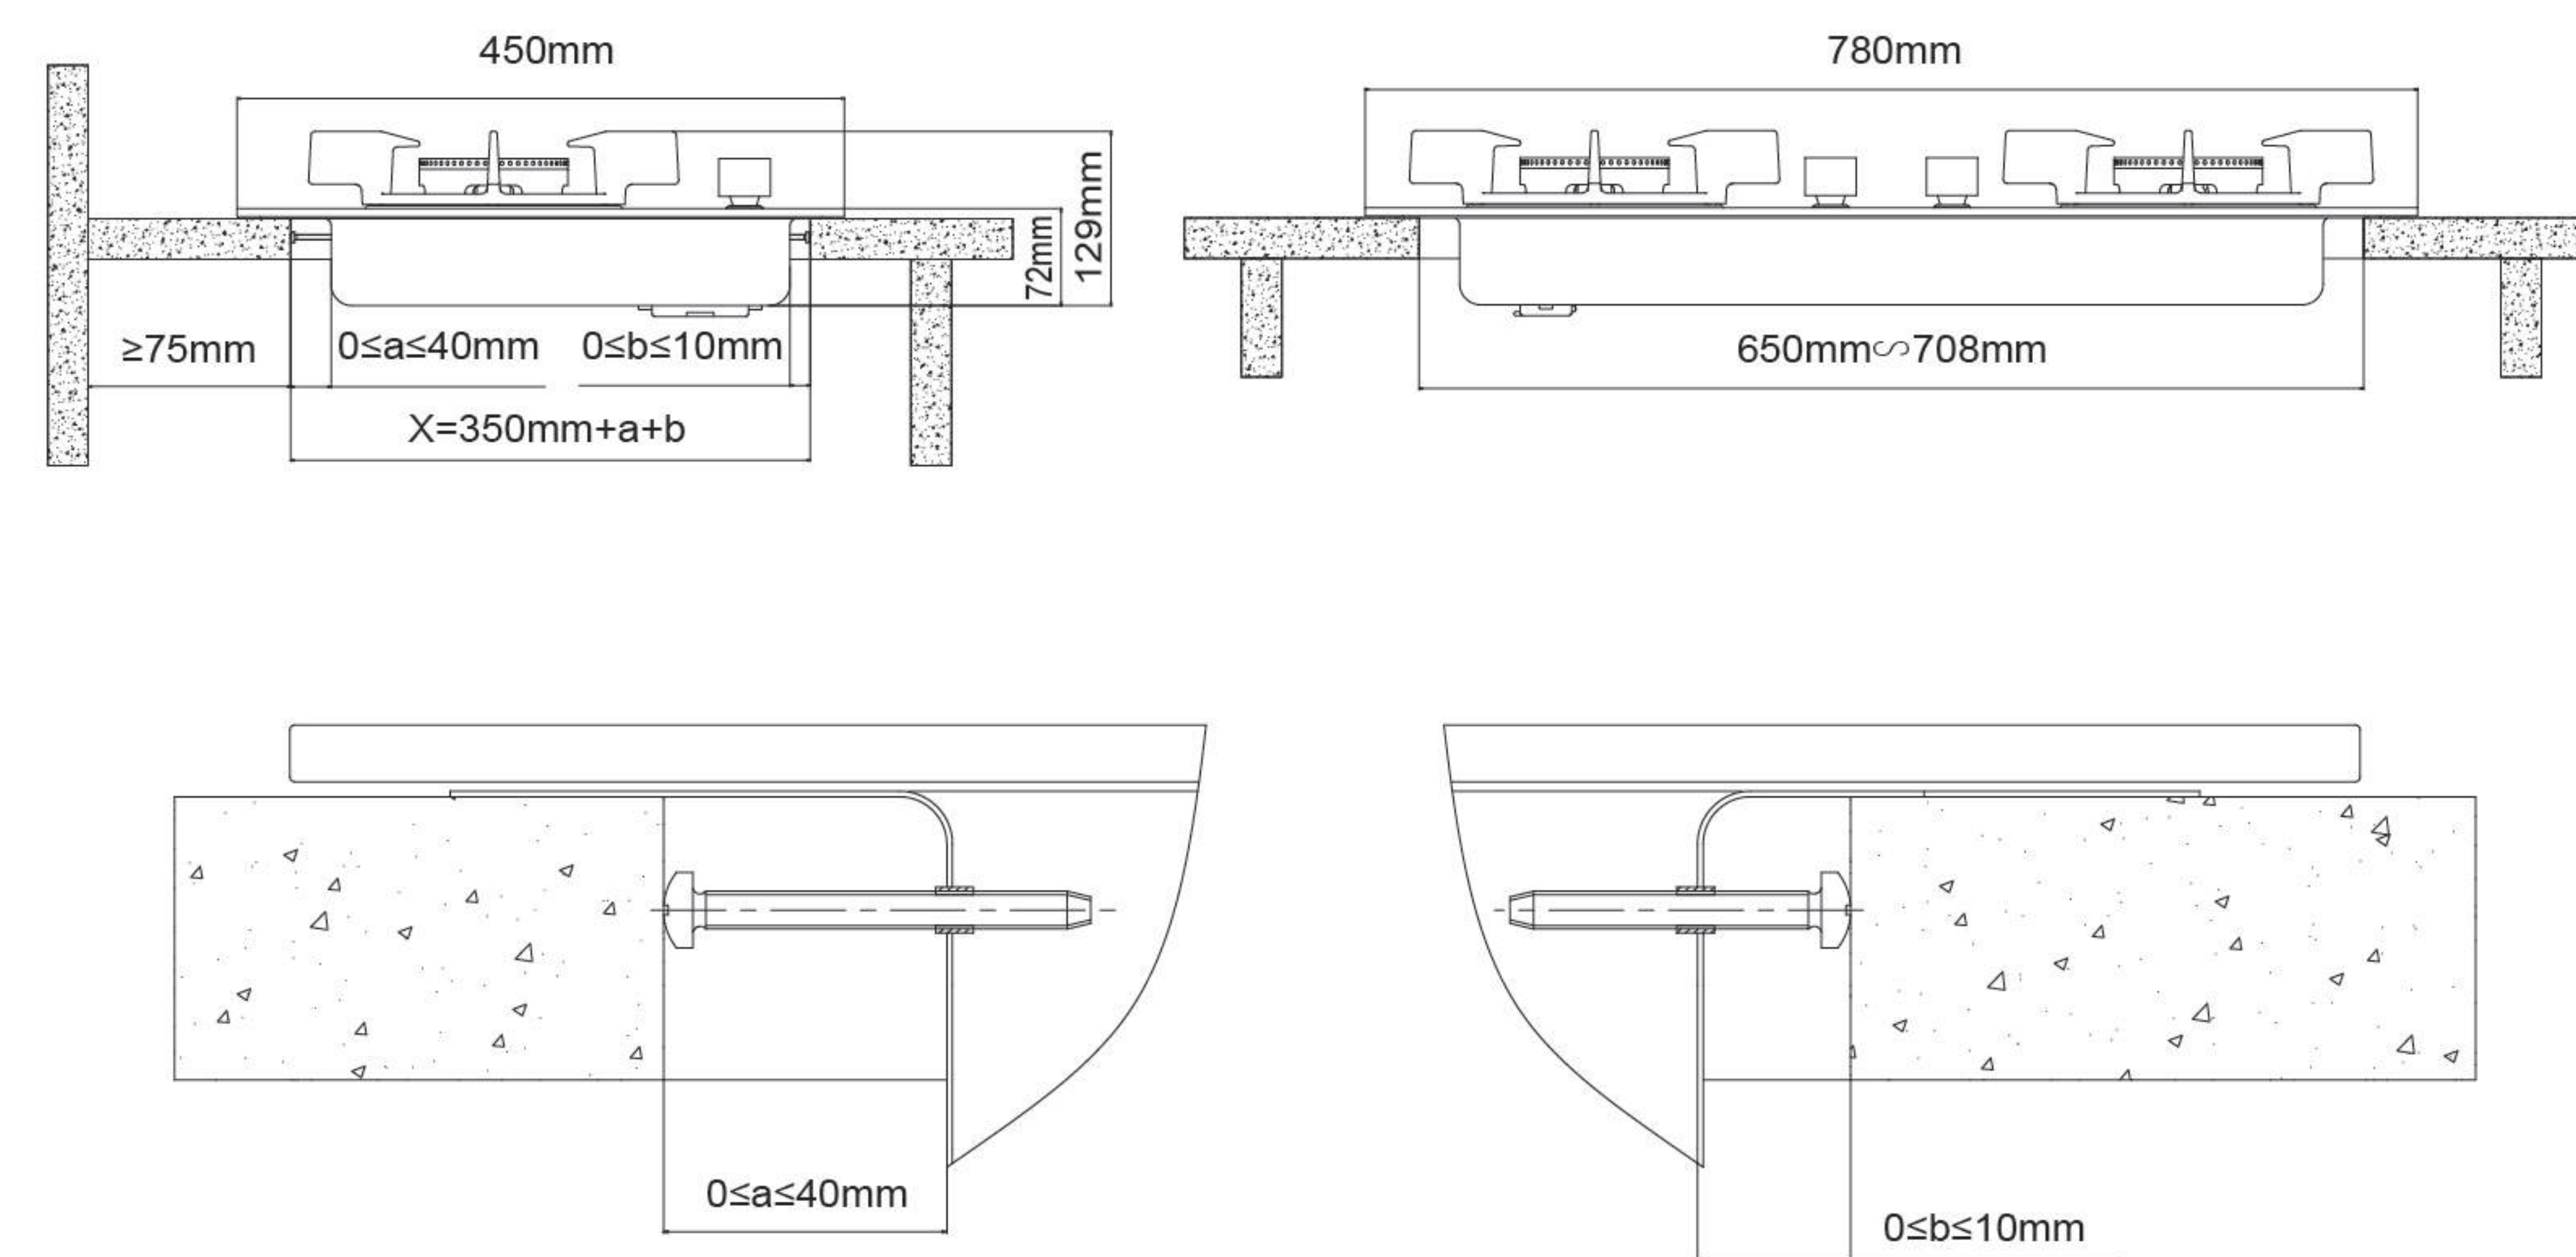

Fig.7
- 1.The stove should be installed into durable and horizontal kitchen countertop. For the hole size on the countertop, please refer to the installation diagram (Fig. 7, 8 and 9) and specific specification. Make sure the distance from the inflammable matters must be greater than 150mm, and from noncombustible matters greater than 50mm.